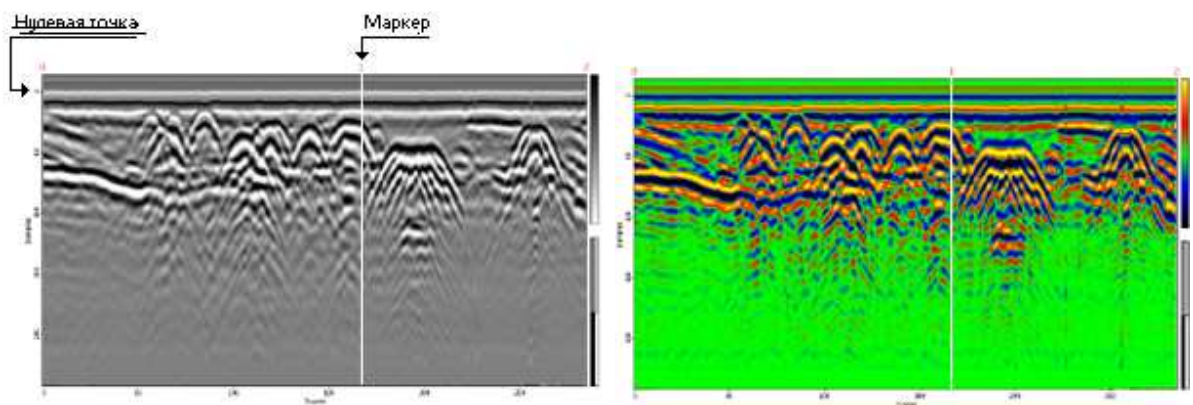

Fig. 4.3. Example of displaying the line scan (in black-and-white and color scales)
6. **Line scan** – a type of imaging a profile where traces are set vertically, close to each other, and they are drawn as vertical lines. Color in every point of the line depends on the amplitude of a respective sample of traces according to the chosen color scale. Examples of the line scan are shown on Fig. 4.3.
7. **Mark** – a distinguishing feature of a profile trace which denotes some uniqueness of this trace and, consequently, uniqueness of this particular point of the probing route. Marks serve to attach the profile to the location. When probing, you can by push of a button enter marks when passing some locality landmarks or pegs that have been placed for this purpose. Further on, when the profile is shown on the display, these marks will be entered together with the profile. Examples of displaying marks are shown on Fig. 4.3.
*Note: as our experience shows, the line scan in the **black-and-white** color scale is the most informative type of displaying probing data (Fig. 4.3, on the left).*